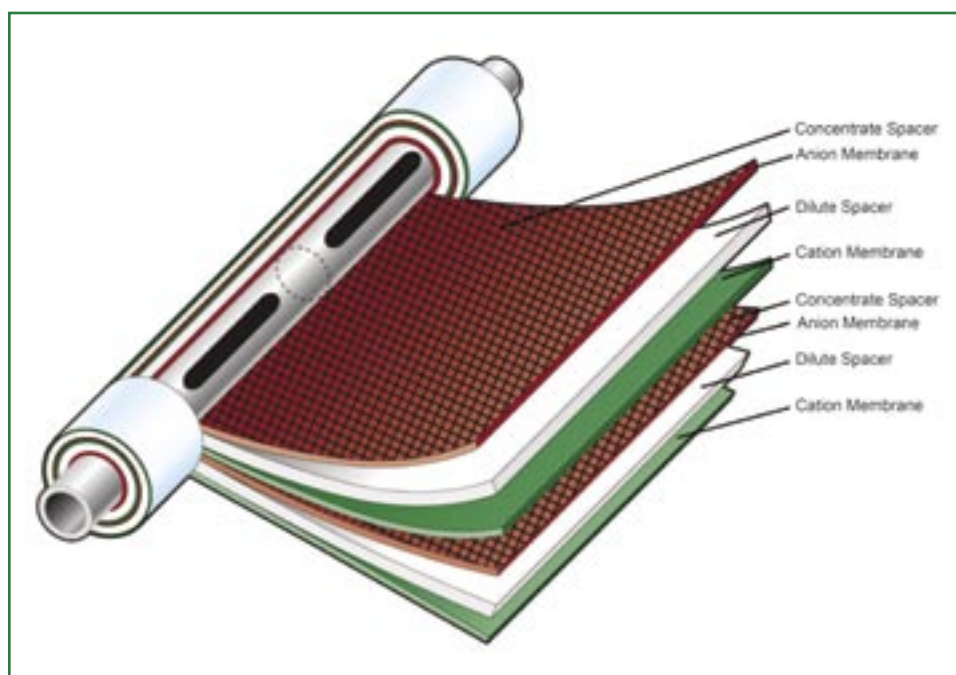

Figure 1
**E**lectrodeionization or **EDI**, is a continuous and chemical-free process of removing ionized and ionizable species from the feed water using DC power. EDI is typically used to polish reverse osmosis (RO) permeate and to replace conventional mixed bed ion exchange, which eliminates the need to store and handle hazardous chemicals used for resin regeneration and associated waste neutralization requirements.
**The patented OMEXELL™ EDI** module utilizes a unique, leak free, low maintenance spiral wound design containing membrane (see figure 1, below) and ion exchange resins, sealed in a high strength (FRP) pressure vessel. OMEXELL EDI modules optimize performance, maintain continuous product quality and can produce up to 18 MΩ-cm high-purity water with high silica and boron rejection. OMEXELL EDI modules are the first truly cost-effective alternative to post-RO deionization applications. OMEXELL EDI modules are the first truly cost-effective alternative to post-RO deionization applications.